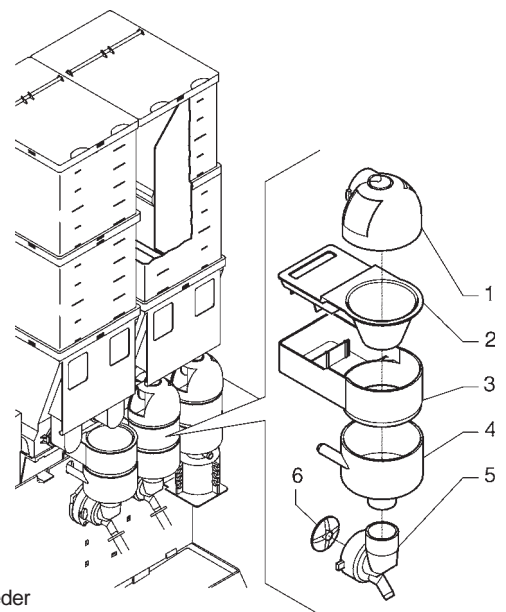

Fig. 6
- remove the powder and the water funnels, the feeders, the powder deposit drawers and the mixer wheels from the mixers (see Fig. 6);